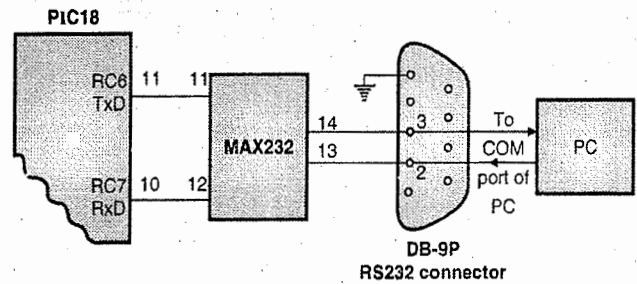

Fig. 12.12.1 : Interfacing PIC18 to PC using RS232 connector
- For serial communication applications we can interface the PIC18 to PC using RS232 standard as shown in Fig. 12.12.1.